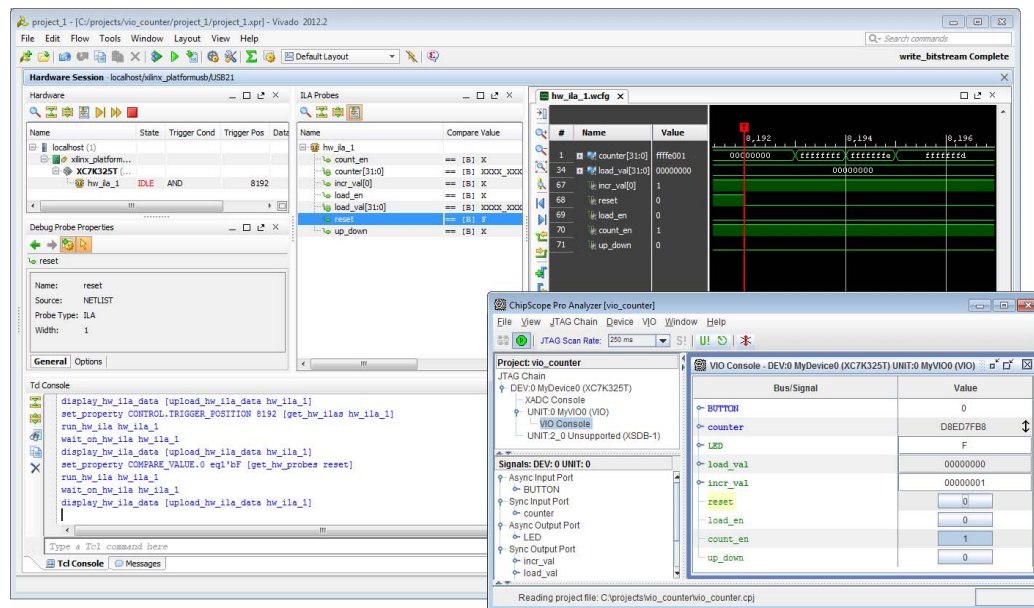

Figure 5-6: Using Vivado Logic Analyzer Feature and ChipScope Pro Analyzer Tool to Debug the Design
- Use each of the run-time analyzer tools to interact with their respective debug cores (see Figure 5-6)